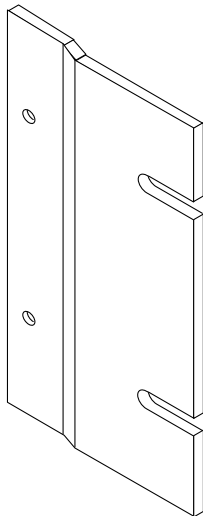

FIGURE 3-8 Mounting Adaptor Bracket
- a. **Get the adaptor bracket from the x-option ship kit (FIGURE 3-8).**